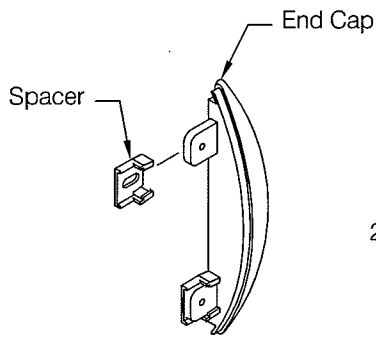
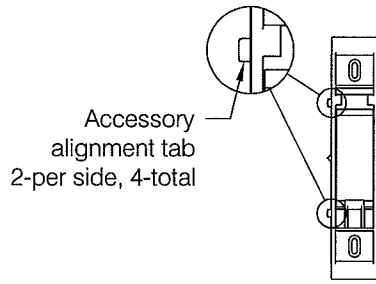
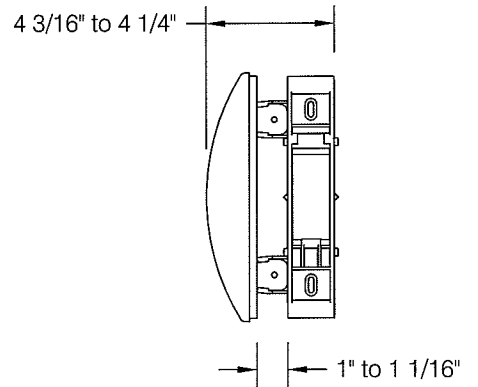

fig 4
fig 5
fig 6
**Step 3:** A Quik Clip must be installed adjacent to each molded accessory. Begin by installing a spacer on each of the accessory mounting tabs, see **fig 4**. The Quik Clip has four accessory alignment tabs used to facilitate positioning of the molded components with respect to the clip, see **fig 5**. Temporarily locate the accessory and Quik Clip combination by holding them temporarily in their desired position. Remove the accessory and fasten the Quik Clip in place. It is also possible to locate the clip by measuring 4 3/16" to 4 1/4" from the outer edge of the desired accessory location or 1" to 1 1/16" from the inner edge, see **fig 6**.